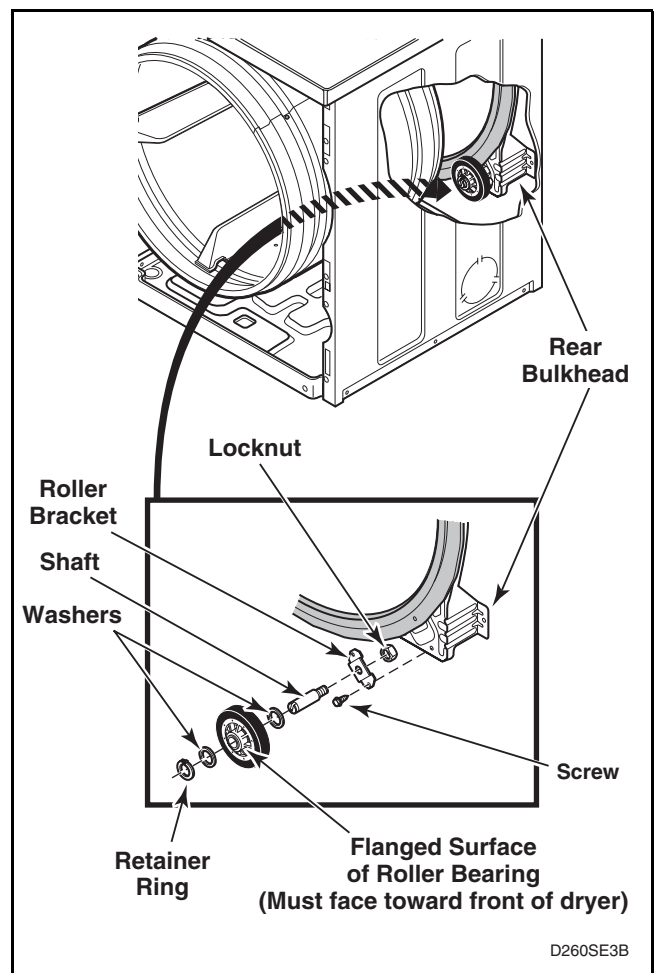

Figure 36
- Pull cylinder forward allowing rear of cylinder to drop down exposing rollers. Refer to *Figure 36*.
- Refer to *Figure 36* for removal of roller from bulkhead.